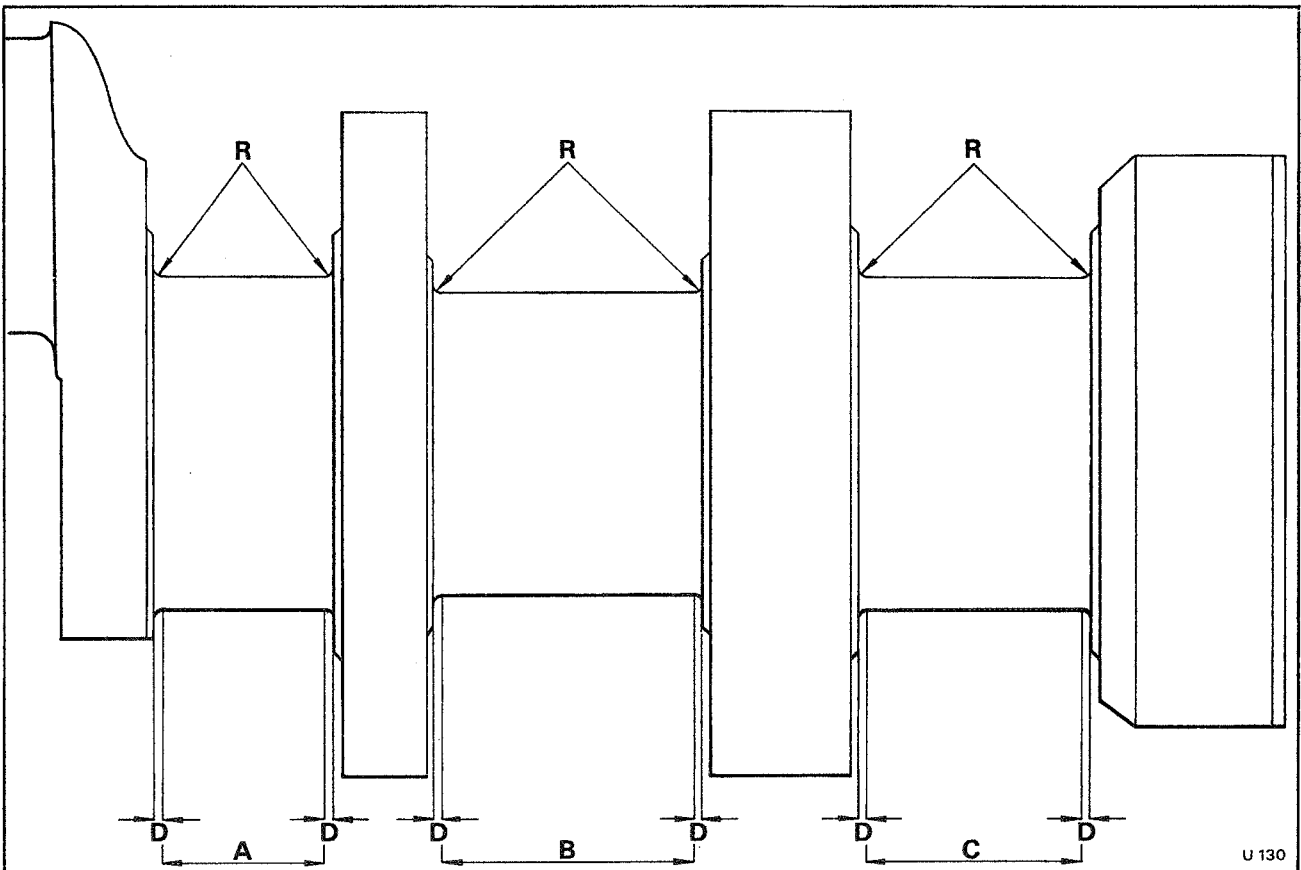

Fig. E9 Crankpin and journal grinding dimensions
5. For 'plunge' grinding, the width of the stone must be 0,51 mm. (0.020 in.) less than the dimension between the journal or crankpin end faces and the machine must be fitted with hydraulic stops. For traverse grinding a suitable width of stone should be selected (see Fig. E9).